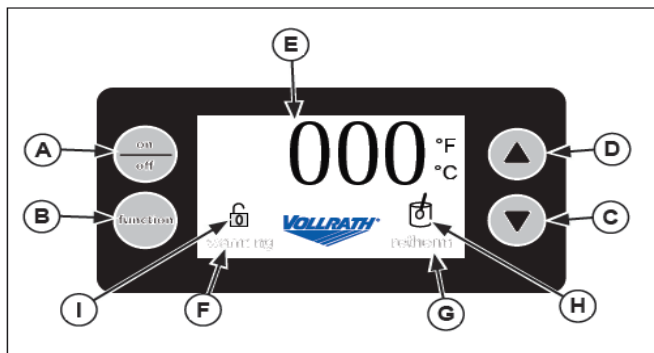

Figure 1. Control Panel
1. Press the ON/OFF button (A) to turn on the unit. See Figure 1.
2. Press the function button (B) to select the preset program mode. Program choices are: Warming, Retherm (Rethermalize), or food types: Soup, C Soup (Cream Soup), Chili, and Mac (Mac and Cheese). The programs operate a predetermined temperature. Or, in the case of the Warming program it can be set to a specific temperature by the operator.
2. Press the function button (B) to choose °F to °C temperature on the display (E).
5. Press the arrow up (D) or arrow down (C) to select the temperature value program above 155 °F (68 °C). The warming light (F) blinks until the food product heats to temperature.
3. Press the arrow up (D) or arrow down (C) to select the temperature value program. The warming light (F) blinks until the food product heats to temperature.
4. While in the warming mode press the cursor up (D) or arrow down (C) to select temperature you desire. The warming cycle will reach and maintain that temperature until the temperature is reset again.
2. Press the function button (B) to change from °F to °C.
3. To lock the unit: At the same time press and hold the function button (B) and the arrow down button (C) until the lock light (I) appears. The control can not be changed until the unit is unlocked.
4. To unlock the unit: At the same time press and hold the function button (B) and the arrow down button (C) until the lock light (I) disappears. Or, turn the unit off and on again. The control can now be changed.